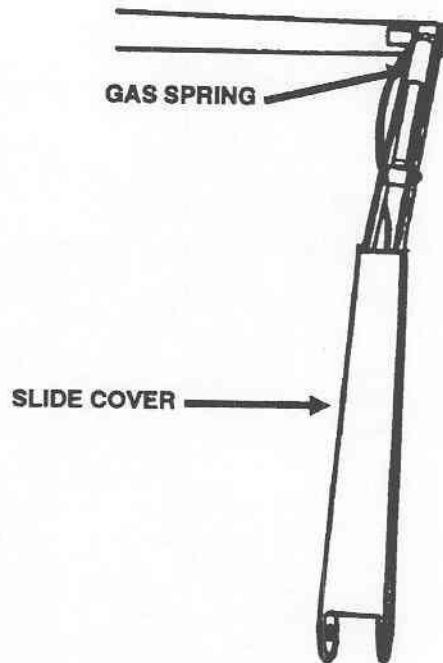

Figure 3-19. Cover removal and gas spring.
(13) Remove the slide cover (fig 3-19).
(14) Replace the gas spring.